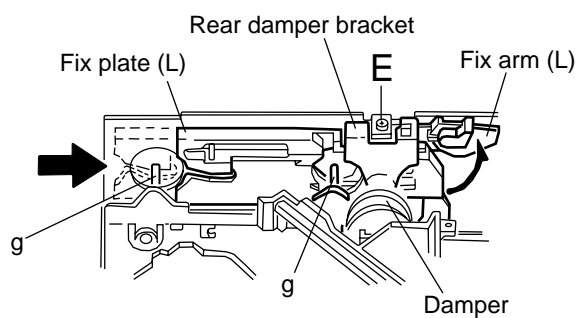

Fig.8
2. Raise the both sides fix arms and move the fix plates in the direction of the arrow to place the four shafts **g** as shown in Fig.8 and 9.